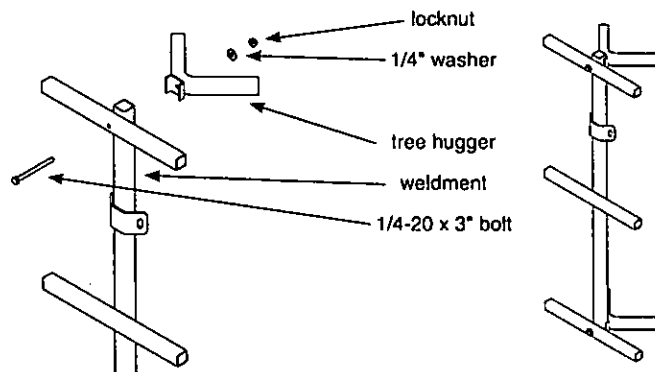
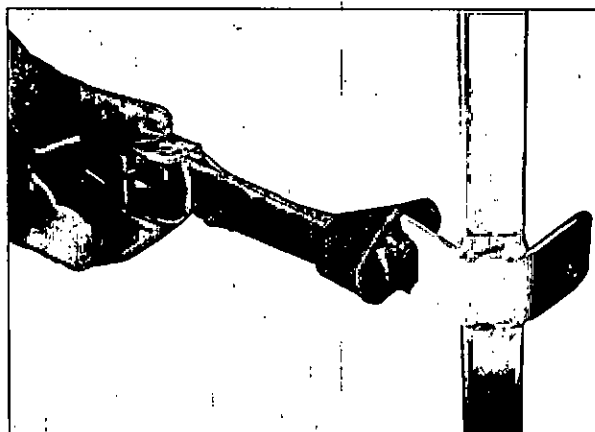

FIGURE 1
FIGURE 2
1. Attach (2) tree huggers (SS12) to each fast stick weldment (48161) using (2) provided 1/4-20 x 3" bolts, (2) locknuts and (2) 1/4" washers. SEE FIGURE 1. TIGHTEN ALL NUT AND BOLT ASSEMBLIES COMPLETELY! REPEAT FOR EACH ADDITIONAL FAST STICK SECTION.
3. a. Using (1) of the provided cam strap assemblies (48302), insert the loop end of the short strap through slot of strap attachment bracket located on to the vertical post of Fast Stick weldment. You may choose either slot, depending on left or right hand preference.
b. Take the entire cam strap assembly and feed it through the loop and pull tight forming a cinch knot. This permanently attaches the strap to the Fast Stick section. SEE FIGURE 2.